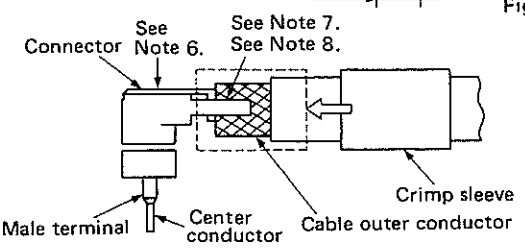

Fig. 5
- (2) Bend the connector lid, as shown in Figure 5.
- (4) Slide the crimp sleeve further in up to the base of the support bar. (Fig. 5 dotted line section)